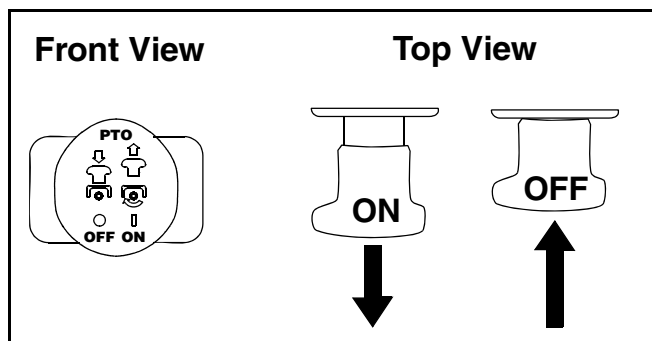

Figure 6
- Pull the PTO/Blade Engage knob outward into the engaged (ON) position. See Figure 6.